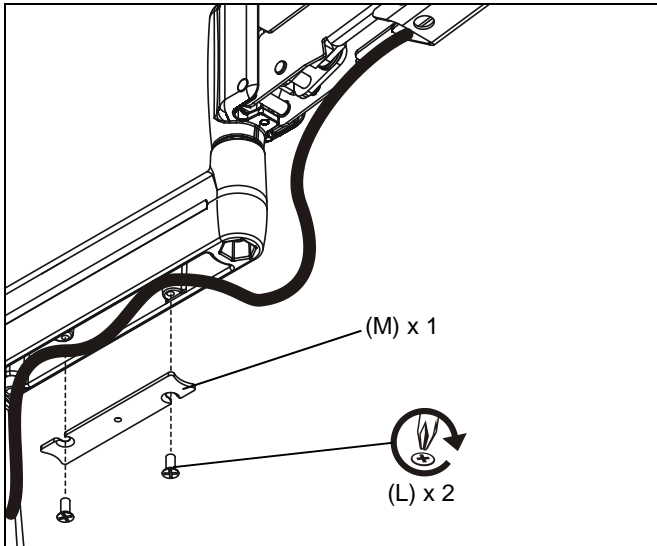

Figure 8
5. Carefully insert cables in cavity located in lower portion of mount arm (See Figure 8).
6. Using Phillips screwdriver, install cover (M) with two screws (L).